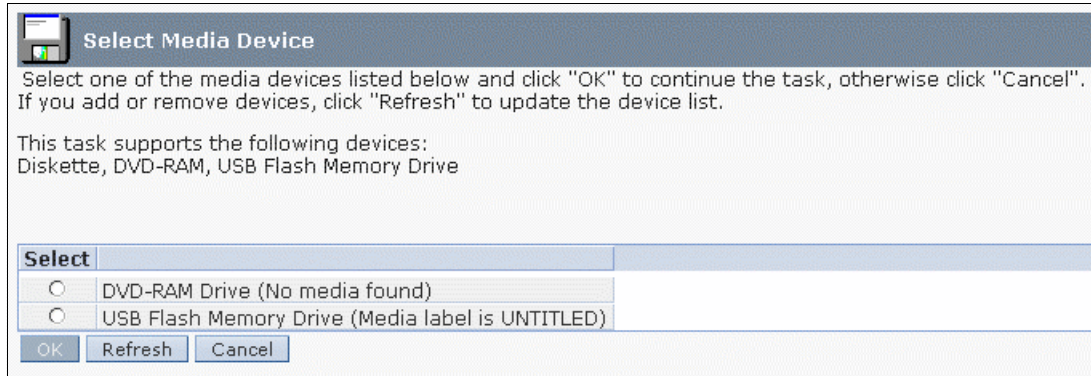

Figure 2-5 Format media
2. Select **Format Media** in the right window to open the media selection box as shown in Figure 2-5.